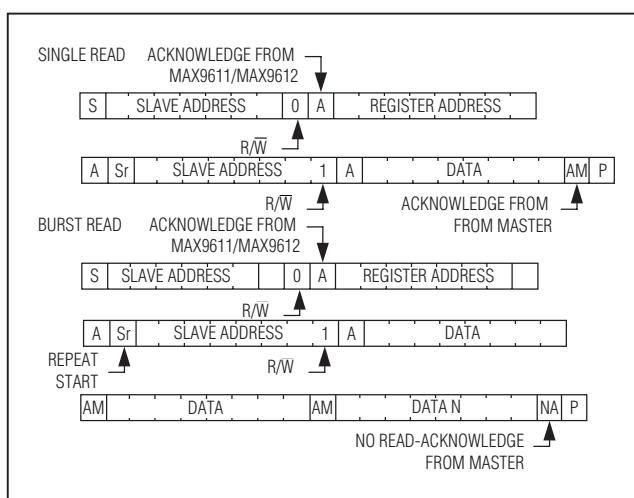

Figure 2. I2C Read Operation
In an I2C read operation (Figure 2), the bus master issues a write command first by initiating a START condition followed by seven address bits, a write bit (R/W = 0) and the 8-bit register address. The master then issues a Repeated START (Sr) condition, followed by seven address bits, a read bit (R/W = 1). If the address byte is successfully received, the MAX9611/MAX9612 (slave) issue an acknowledge (A). The master then reads from the slave. For continuous read, the master issues an acknowledge bit (AM) after each received byte. The master terminates the read operation by sending a not acknowledge (NA) bit. The MAX9611/MAX9612 then release the data line SDA allowing the master to generate a STOP condition.